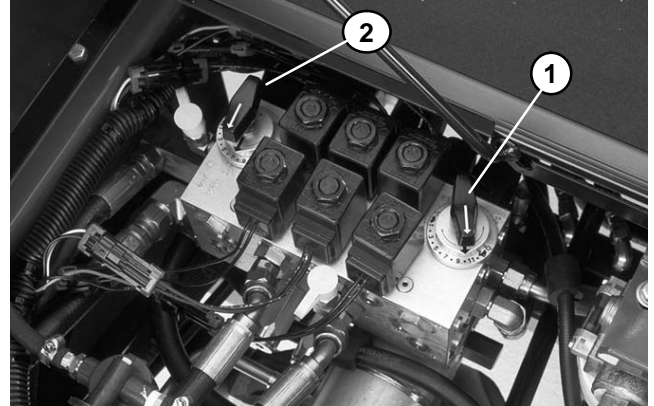

Figure 21
4. Set both reel speed controls to position 11 (Fig. 21).
13. Set reel speed controls to desired mowing setting (Fig. 21).